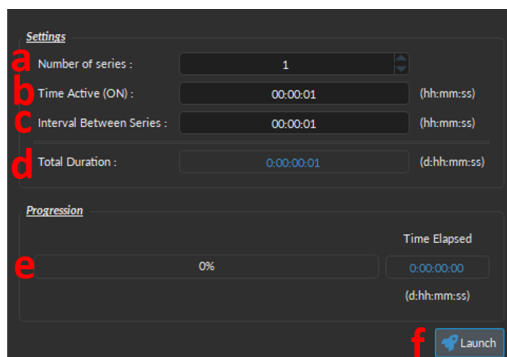

Figure 4.3: Time Series Window
2. The **Time Series** button opens the Time Series window (Fig. 4.3). This tool allows all channels to share the same timing. The window is composed of: